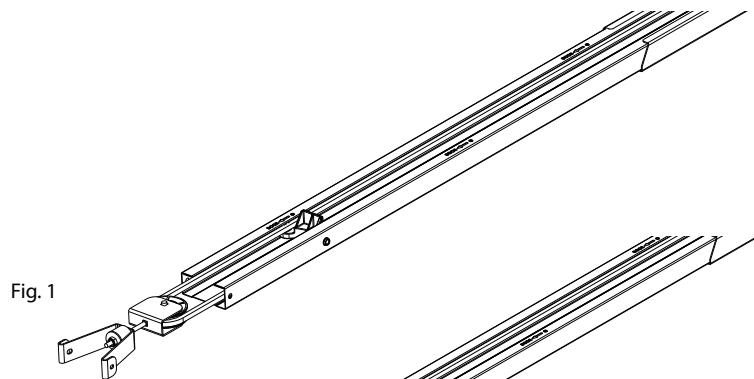

Fig. 1
1. Slide pulley assembly out of the rail end. Fig. 1